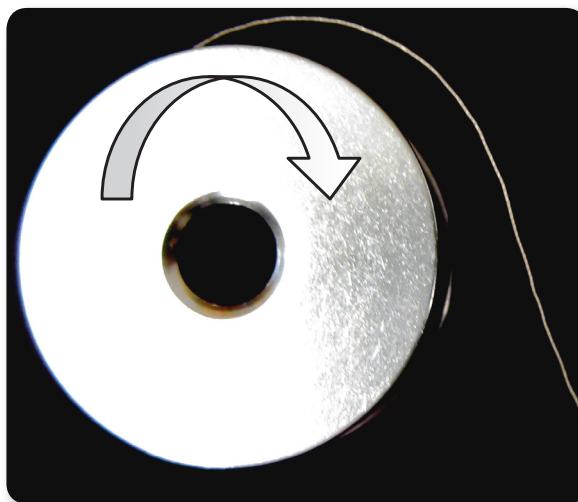

Figure 17
1. Place the bobbin in the bobbin case so that the thread pulls off clockwise when viewing the open side (Figure 17).